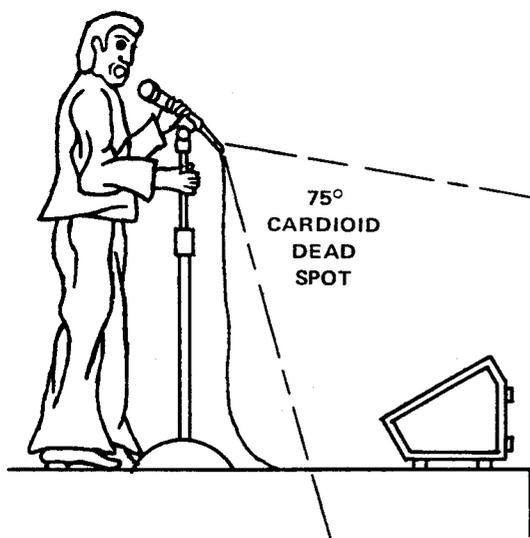

FIGURE 4 – Vocal Microphone Use
**Vocalist Microphones.** Single-D, cardioid microphones are recommended for vocal use. The microphone should be stand-mounted, as shown in Figure 4, or handheld, so that the cardioid dead spot is pointed towards the stage monitor, which would normally be placed in front of the vocalist. Recommended Electro-Voice microphones include the PL80 (preferred), PL91A, PL76A, and PL77A, with the PL95 being considered for maximum gain-before-feedback. Both microphones should be the same model to avoid the need for level and equalization compensation at the mixer.